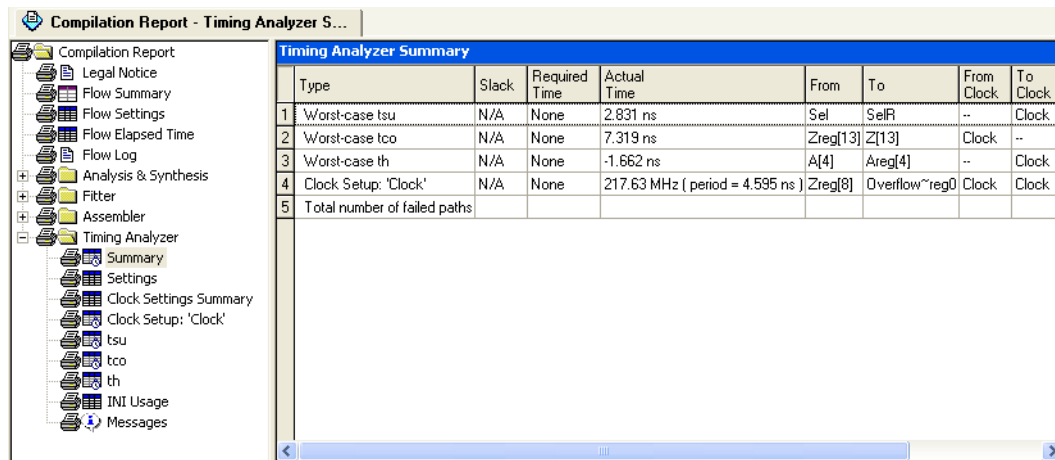

Figure 20: Summary of timing analysis.
- Click on the small + symbol next to Timing Analyzer to expand this section of the report, as shown in Figure 19. Clicking on Timing Analyzer item Summary displays the table in Figure 20. The last entry in the table shows that the maximum frequency for our circuit implemented on the specified chip is 217.63 MHz. You may get a different value of f_{max} , dependent on the specific version of the Quartus II software installed on your computer.
- To see the paths in the circuit that limit the f_{max} , click on the Timing Analyzer item Clock Setup: 'Clock' in Figure 20 to obtain the display in Figure 21. This table shows that the critical path begins at bit 8 of register Zreg and ends at the flip-flop Overflow. The table in Figure 20 also shows the measurements of other timing parameters. While f_{max} is a function of the longest propagation delay between two registers in the circuit, it does not indicate the delays with which output signals appear at the pins of the chip. The time elapsed from an active edge of the clock signal at the clock source until a corresponding output signal
- Click on *tco* in the Timing Analyzer section to view the table given in Figure 22. The first entry in the table shows that it takes 7.319 ns for a signal to propagate from bit 13 in register *Zreg* to the output pin *z13*. The other two parameters given in Figure 20 are setup time, *tsu*, and hold time, *th*.